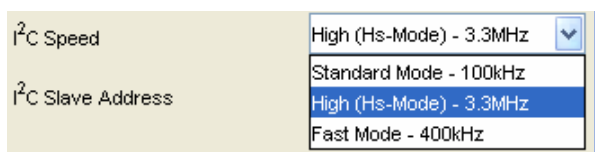

Figure 11: ADC121C021 Control Panel
6. Select the desired I2C Speed from the pull-down menu (Figure 11).